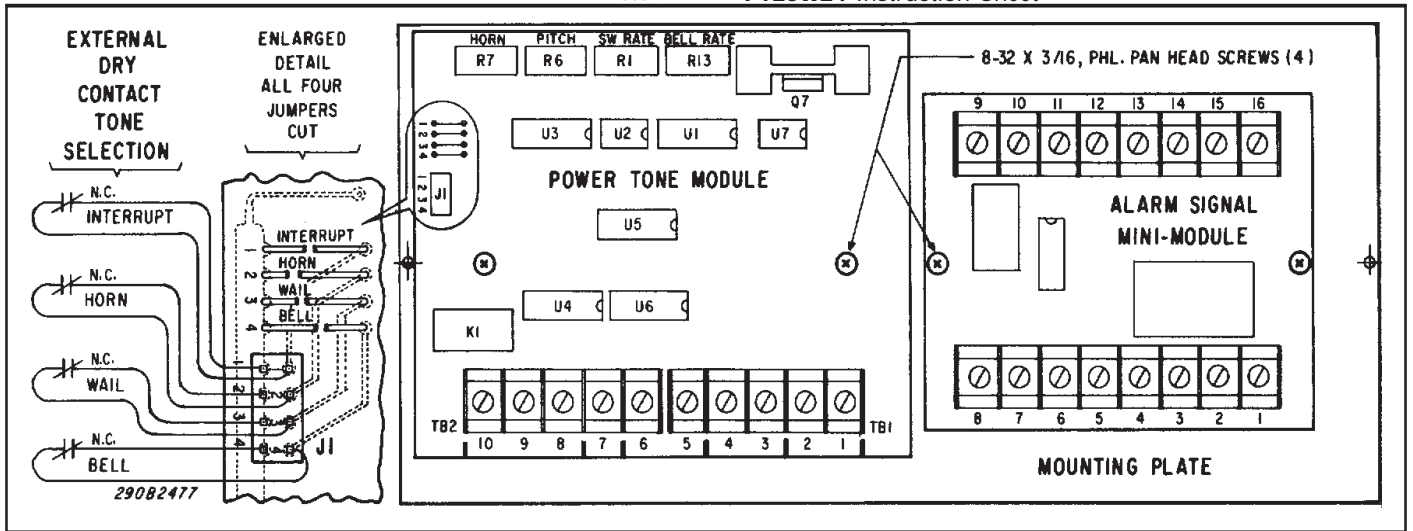

Figure 1.
3. Orientate the modules as shown in figure 1. Secure the Power Tone Module and the Alarm Signal Mini-Module to the mounting plate with the 8-32 screws (supplied).
See figure 1 and table 1. Select the desired tone and cut the applicable insulated jumper wire(s) on the Power Tone Module.
See figure 1. If tone selection from external dry contacts is desired, cut all four insulated jumper wires on the Power Tone Module. Use an eight-position header connector and 24" cable (order Federal Part No. PTREM) and connect normally-closed single-pole contacts to each pair of header pins at J1. The desired tone can be selected by opening the applicable contact(s).